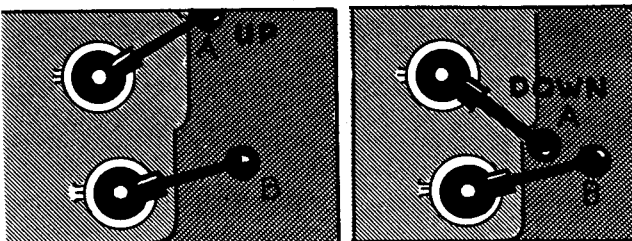

FIG. 86 FIG. 87
4. Close off the feed entirely by turning the handwheel **C**, shown in Fig. 86, to the right (clockwise).